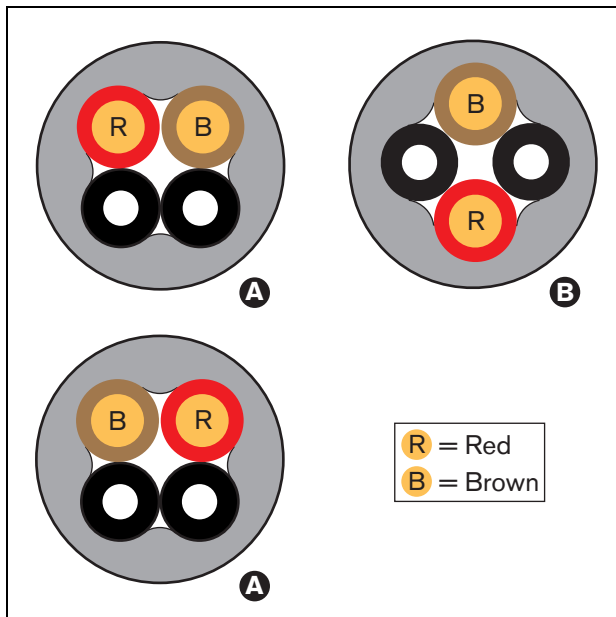

figure 45.5: Cable types
- Type A cables. The plastic optical fibers are adjacent to each other (figure 45.5 shows both cable ends).
- Type B cables. The plastic optical fibers are opposite to each other (refer to figure 45.5, both cable ends are identical).